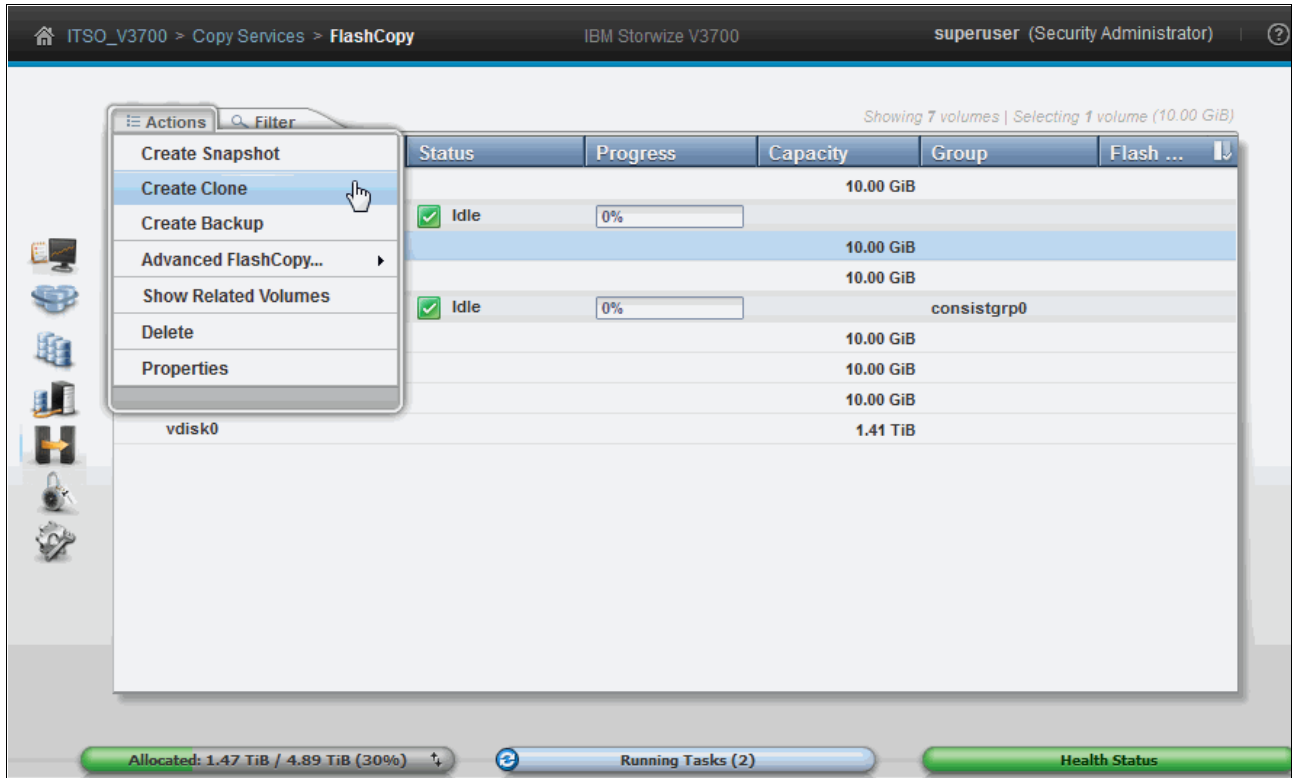

Figure 10-9 Create a clone from the preset
1. In the FlashCopy window, choose a volume and click **Create Clone** from the **Actions** menu, as shown in Figure 10-9.